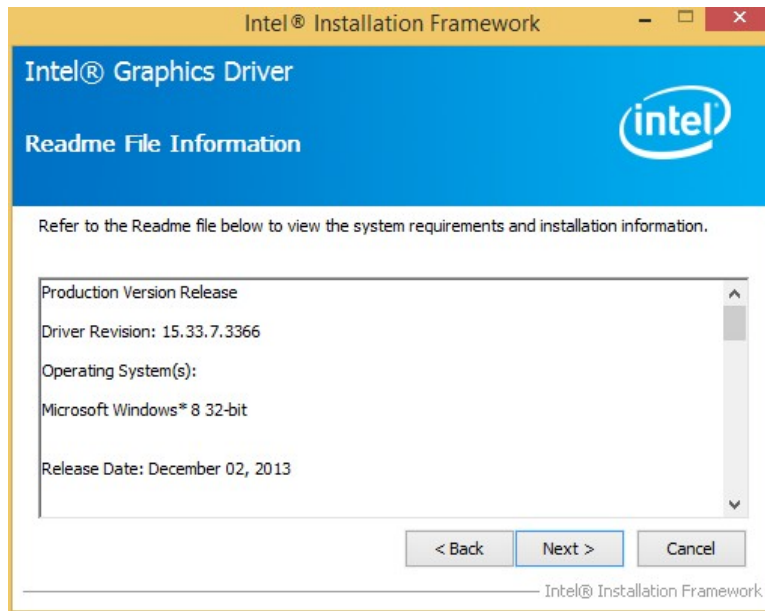

Figure 6-10: Graphics Driver Setup Operations
Step 8: The **Read Me** file in **Figure 6-10** appears. Click **Next** to continue.